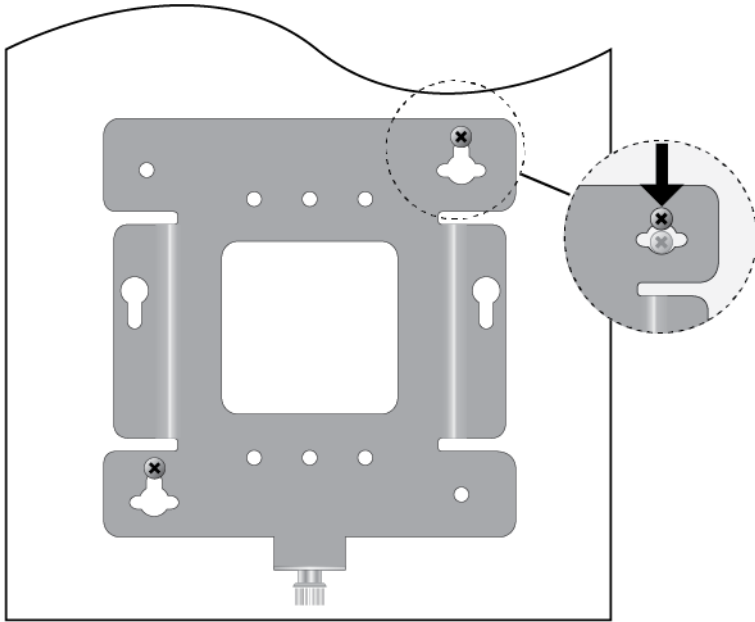

Figure 17. Installing the Mount Bracket On the Screws
6. Insert the openings of the bracket key-hole slots under the two screw heads and slide the bracket into the narrow end of the key-hole slot openings. Refer to Figure 17 on page 50.